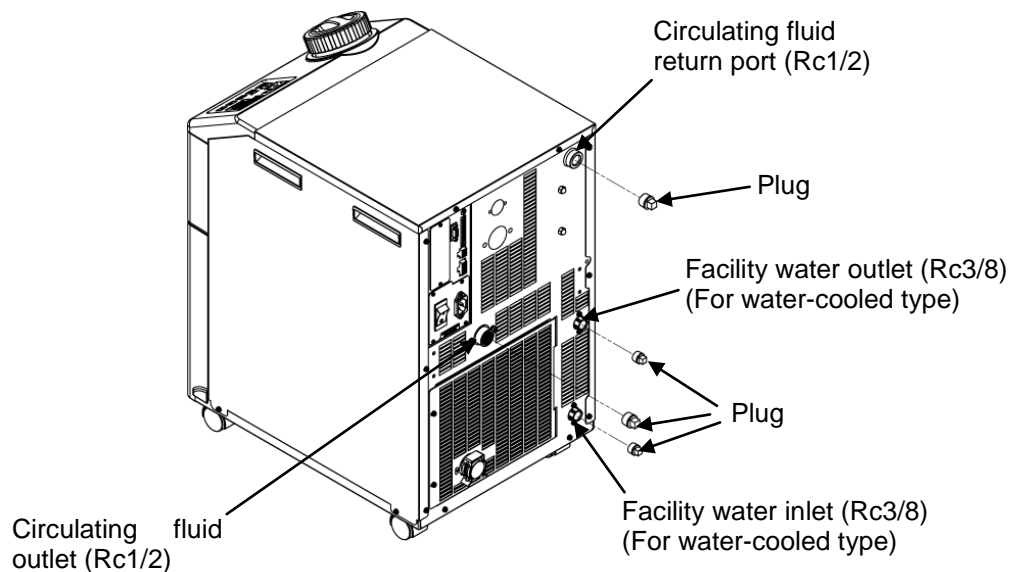

Fig. 8-6 Plug to the piping of the product
**9.** Refer to Fig. 8-6 to mount the plug to the piping of the product.